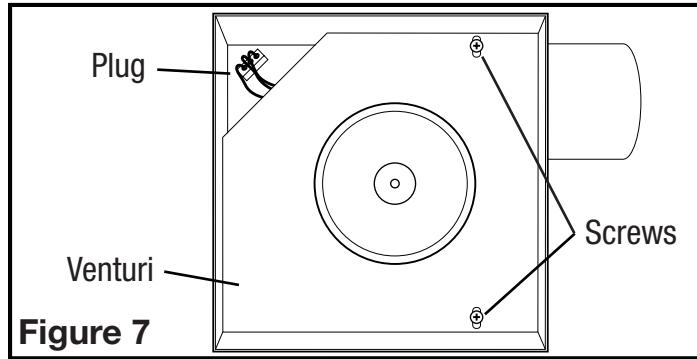
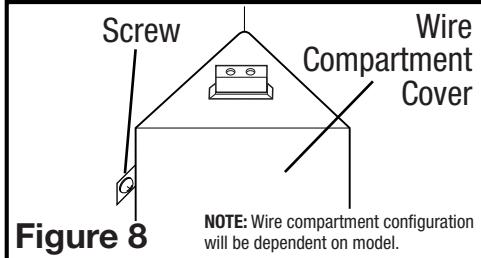

Figure 7
Figure 8
- 1b. **Internal Wire Compartment:** Remove the screws holding the blower assembly in place and lift assembly out of housing (Figure 7). Remove the wire compartment cover screw and place the cover in a secure place (Figure 8).